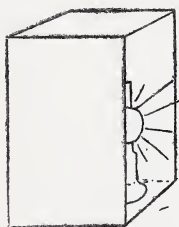

Fig. 21,
1. Remove the lid of an empty packing case of roomy size. Set it on its side on a table so that its open top is now an open side and the top no longer open (fig. 21). In this box (our extemporised lantern body) put a lighted lamp or candle. Take the whole arrangement into a darkened room, or one where the blinds are down and curtains drawn. As we